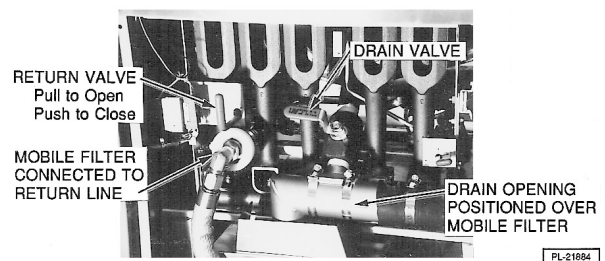

Fig. 7
After oil has filtered into the mobile filter, it is pumped back to the individual tank by (1) closing the drain valve, and (2) opening the valve on the return line (Fig. 7). Only one return valve should be opened at any one time.